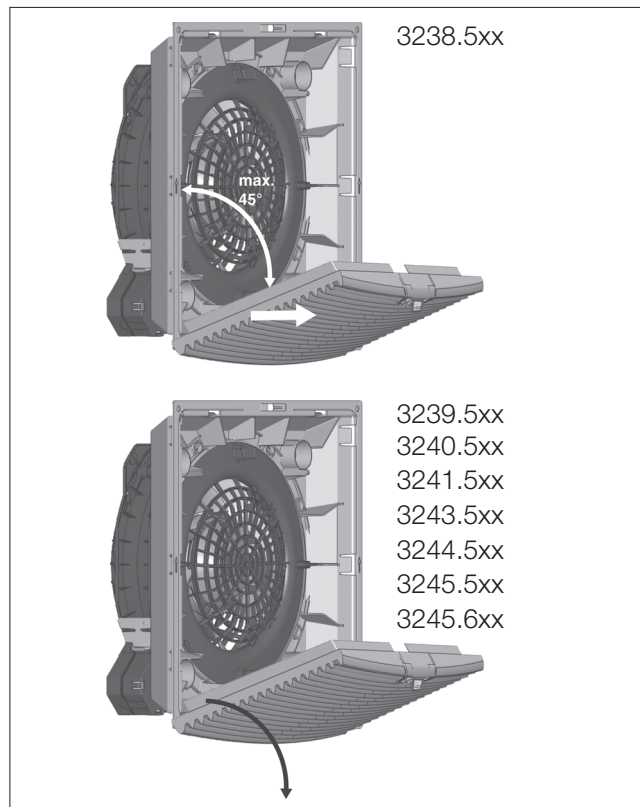

Fig. 2: Release the louvred grille
- To drill the lower holes, it is necessary to remove the louvred grille as shown in fig. 2.